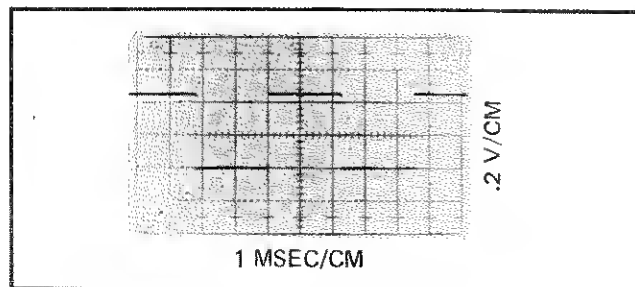

Figure 4-6. MULTIVIBRATOR SIGNAL -- TP9
- d. Compare the oscilloscope display with the waveform shown in Figure 4-6 for amplitude, period, and symmetry. The observed signal parameters should be equal to those of the given signal within $\pm 10\%$.